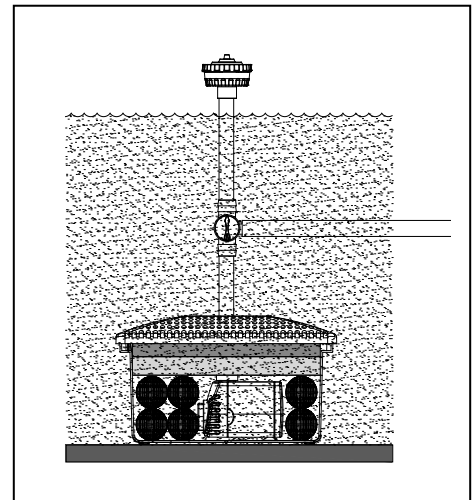

Fig. 12
12. Place the filter assembly in the water. Fig. 12